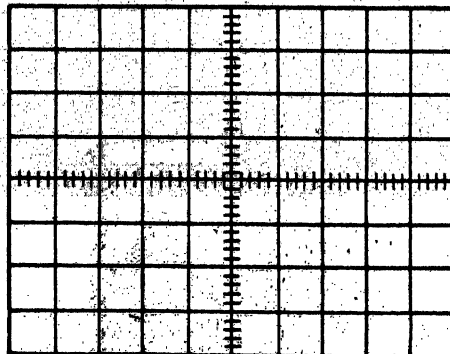

Figure 2
11. Using the oscilloscope in the "AC" position, observe and record in Figure 2 the voltage between the top of R1-5 and circuit common.